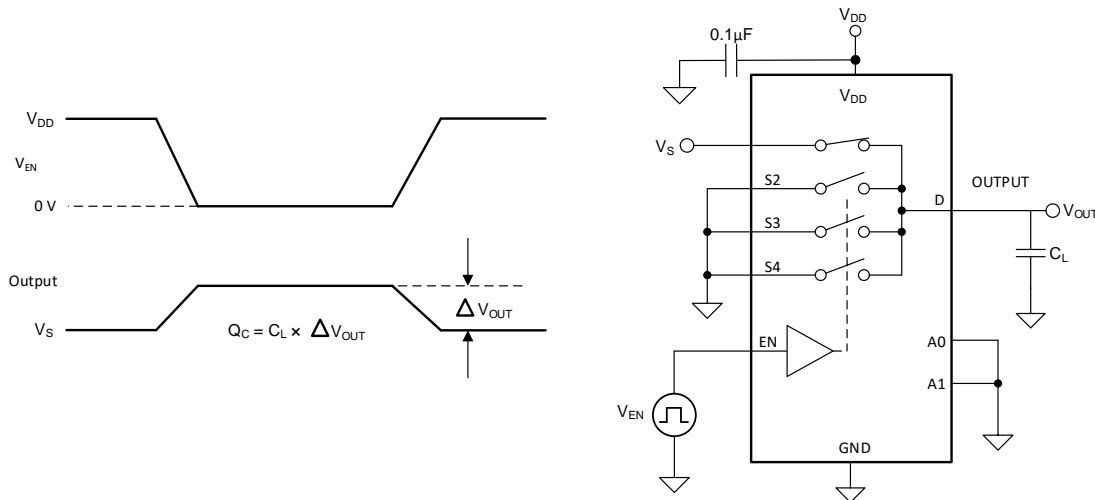

Figure 24. Charge-Injection Measurement Setup
The TMUX1104 has a transmission-gate topology. Any mismatch in capacitance between the NMOS and PMOS transistors results in a charge injected into the drain or source during the falling or rising edge of the gate signal. The amount of charge injected into the source or drain of the device is known as charge injection, and is denoted by the symbol Q_C . Figure 24 shows the setup used to measure charge injection from source (S_x) to drain (D).